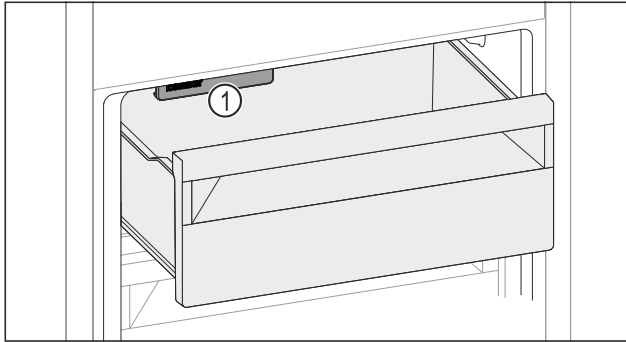

Fig. 63
- ▶ Pay attention to the IceMaker Fig. 63 (1).